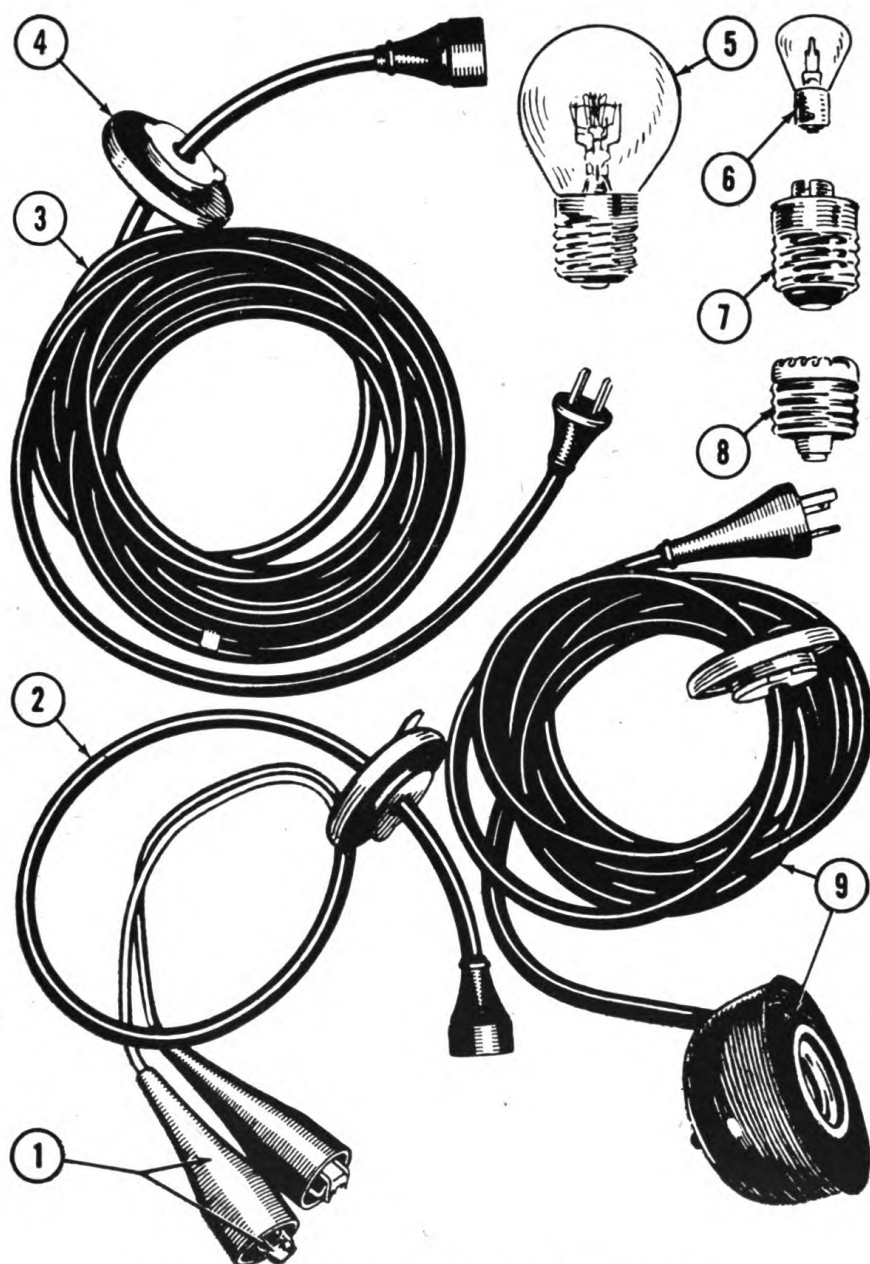

Figure 3. Field operating lamp, accessories.
b. TYPES OF BULBS USED. (1) Part No. SR00021 Bulb, 50-50-watt, 115-volt. (See fig. 3 (5).)
(2) Part No. SR00022 Bulb, 50 C.P., 6-8-volt, single-contact base. (See fig. 3 (6).)
c. MANUFACTURERS. (1) Wilmot Castle Company, Rochester, New York.
(2) American Sterilizer Company, Erie, Pennsylvania.
d. ACCESSORIES. See figure 3.
b. The lamp head must be fitted with a (SR00021) 115-volt, 50-50-watt mogul-base twin filament marine bulb. (See fig. 3 (5).) The bulb operates with both filaments in parallel.
a. The lamp head must be fitted with a 6-8-volt, 50-candlepower bayonet base bulb. (See fig. 3 (6).)
b. Remove the input cord and substitute the female plug of the short storage battery cord (fig. 3 (2)) into the input (first) receptacle.